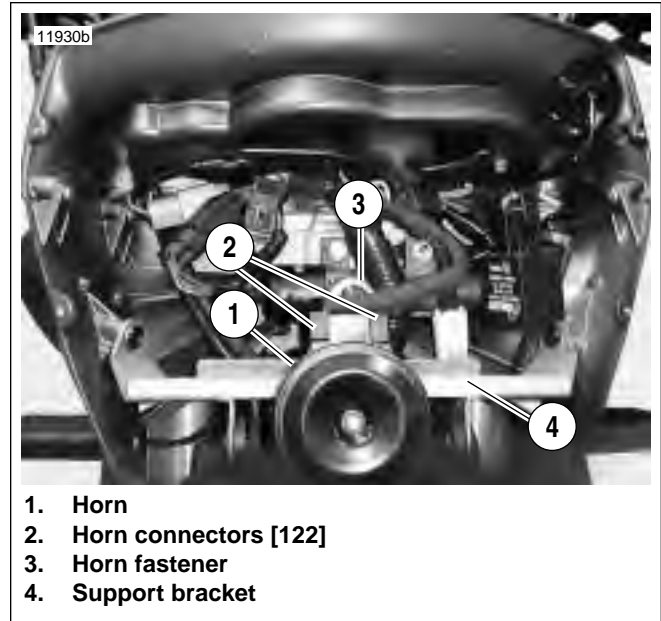

Figure 7-75. Horn Assembly
4. See Figure 7-75. Remove fastener (3).
5. Remove horn (1) from fairing support bracket (4).
6. See Figure 7-75. Detach Y/BK power wire and BK ground wire from terminal clips on horn.
1. See Figure 7-75. Connect Y/BK power wire and BK ground wire to terminal clips on horn.
2. See Figure 7-75. Attach horn (1) to fairing support bracket (4) using fastener (3). Tighten to 36-60 in-lbs (4.0-6.7 Nm).
- a. See Figure 7-75. Remove Y/BK power and BK ground wires from terminal clips.